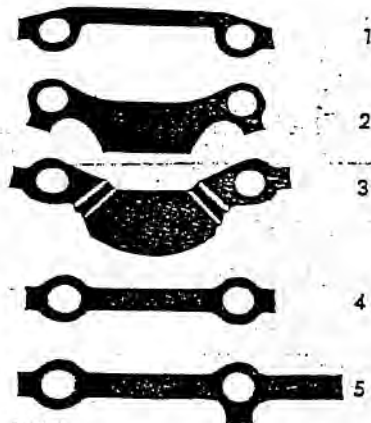

Fig. 42-7/4
\* The locking plates have been modified several times. Use locking plate Part No. 111 994 04 32 for Teves and Girling brake calipers and locking plate Part No. 112 994 03 32 for Dunlop brake calipers. The sheet-metal extension of this locking plate should be bent over the rubber ring (19) of the brake line in order to secure the line in position (Fig. 42-7/8).
Also for the Dunlop brake caliper has the locking plate been changed. The extended locking plate has to be bent over the rubber ring (19) of the brake line in order to ensure that the brake line has been properly laid. The locking plate has the Part. No. 112 994 03 32 (Fig. 42-7/8).